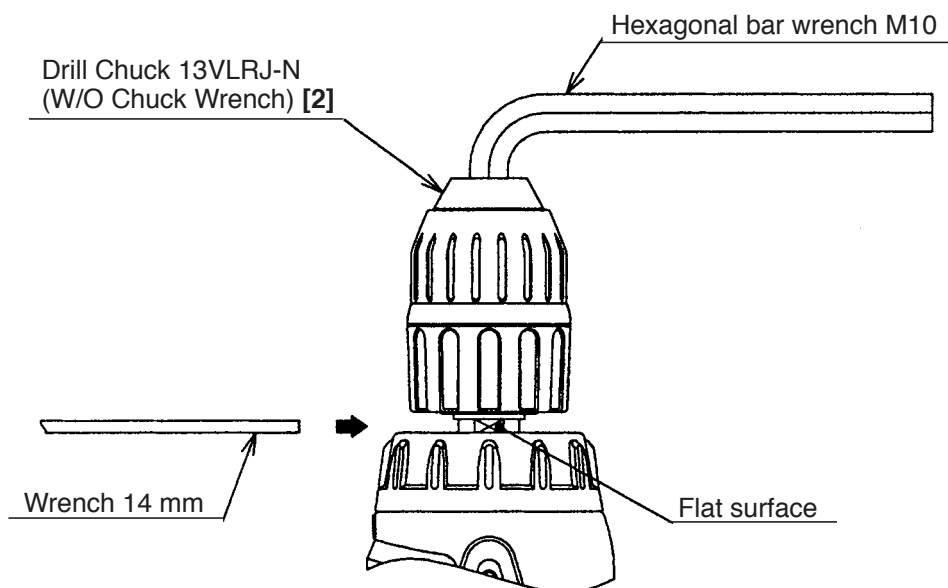

Fig. 5
(2) Removal of the Drill Chuck 13VLRJ-N (W/O Chuck Wrench) [2] (See Fig. 5.)
- (b) Fix the hexagonal bar wrench M10 into the Drill Chuck 13VLRJ-N (W/O Chuck Wrench) [2] as indicated in Fig. 5. Next, apply a wrench 14 mm (Special repair tool, Code No. 873929) to the flat surfaces on the spindle to hold it steady, and remove it by turning counterclockwise. If it is difficult to loosen, use a pipe extension or similar tool.